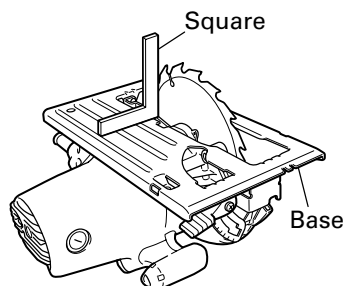

Fig. 21
- 1) Turn the base face up (Fig. 21) and loosen the locking bolt.